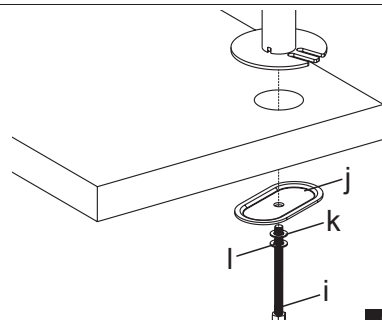

Figure 5
3. Position the Pole(a) on the mounting surface and secure using the Support Plate (j), M10 Washer(k), Spring Washer(l) and M10 Bolt(i). Fasten the M10 Bolt using provided Wrench(p), see Figure 5.